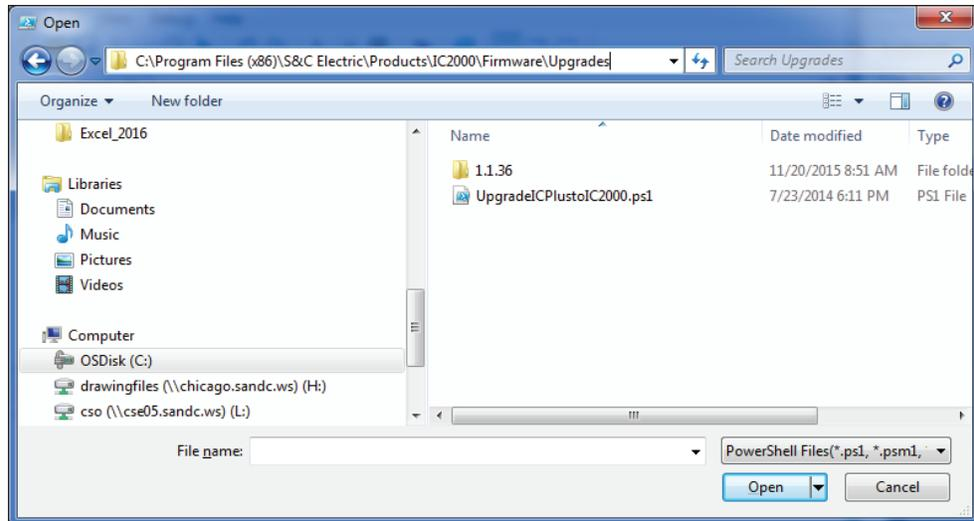

Figure 16. The IntelliCap Plus control firmware upgrade window.
STEP 2. Select the **File Open** option on the main menu and open the UpgradeICPlus-toIC2000.ps1 script file. See Figure 16 on page 46. The file is located at: C:\Program Files (x86)\S&C Electric\Products\IC2000\Firmware\Upgrades\UpgradeICPlustoIC2000.ps1.